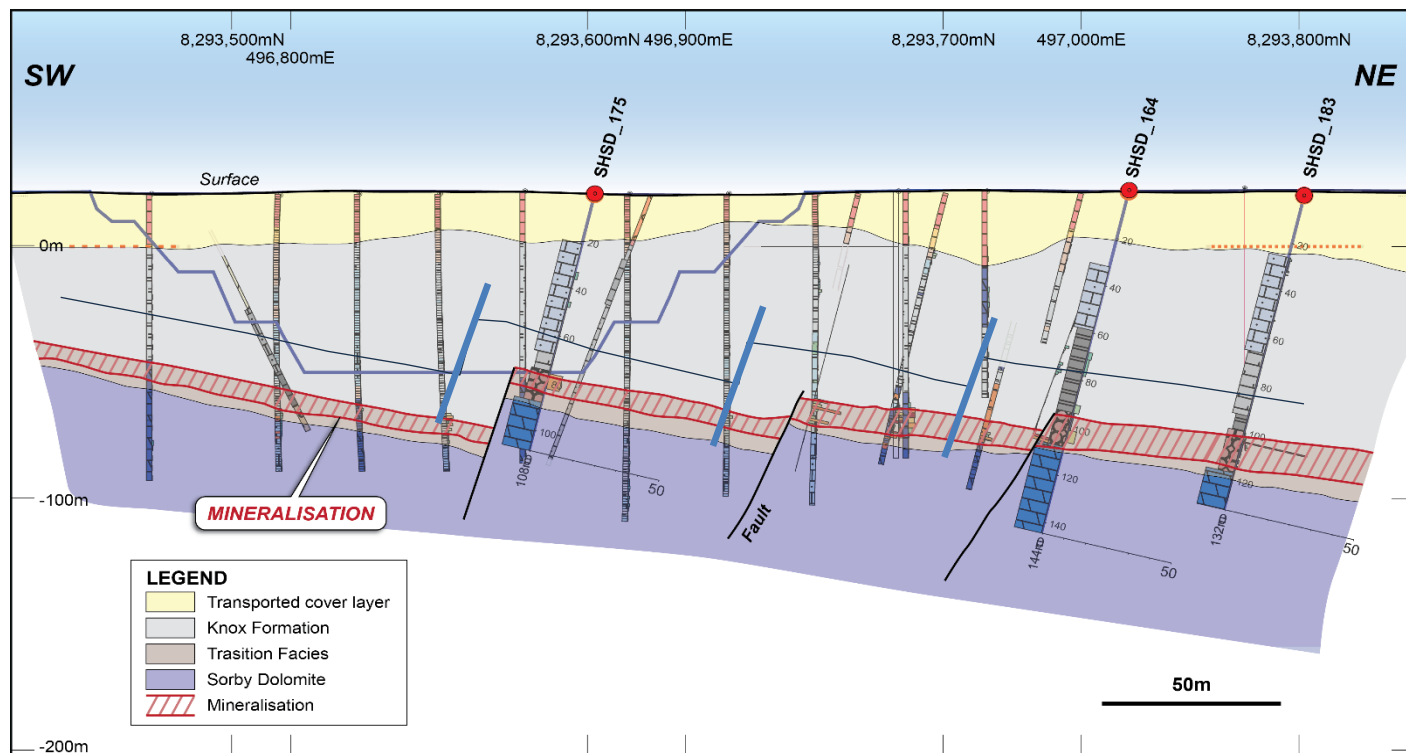

Figure 2: Cross section of the northern extension drilling at Norton (see Figure 1 for location).
1. as a step out to SHSD_164 at Norton North to test the continuity of mineralisation (*Figure 2*),
It was reported that the follow up test hole SHSD_164 of Phase VII at Norton North successfully tested and penetrated mineralisation at the target depth of approximately 100m down hole, 12m to the north. The additional drill hole SHSD_183 which was drilled about 60m northeast of SHSD_164 intersected partially oxidised and massive galena mineralisation (*Figure 2*). It appears that the Norton Deposit is displaced and oxidised along a set of faults to the northwest.